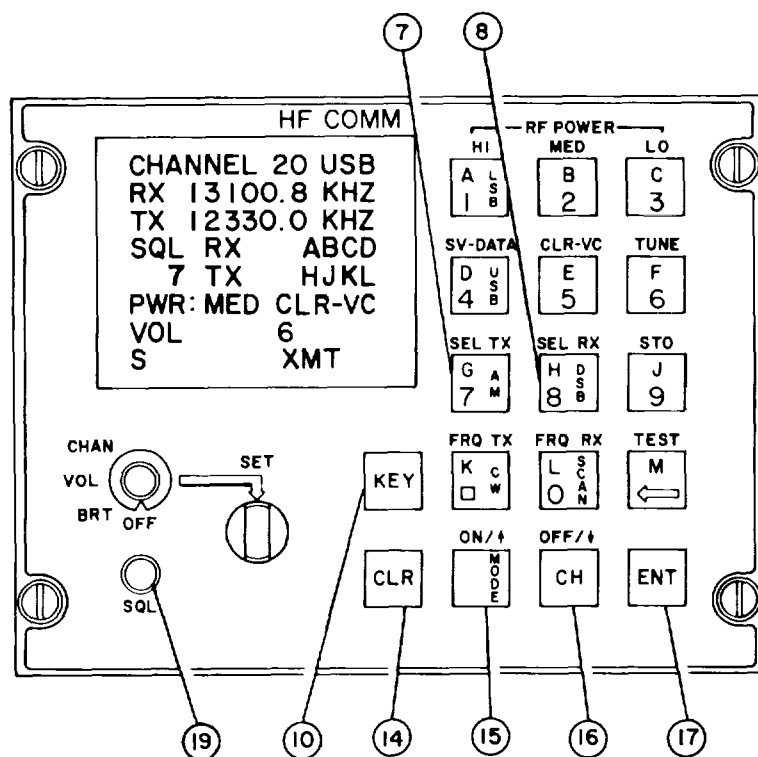

Figure 2-29. C-11245/U SELADR Receive/Transmit Function, Controls
i. **SELADR On/Off.** Refer to figure 2-29. Select address can be enabled for receive or transmit. Operating instructions are given in the following information.
- (1) **SELADR receive.** Refer to figure 2-29. SELADR receive may be selected by simply turning the SQL (19) squelch knob to the second stop counter clockwise from the OFF position. SELADR receive may also be selected by pressing the SEL RX pushbutton (8). Then press the ENT pushbutton (17).